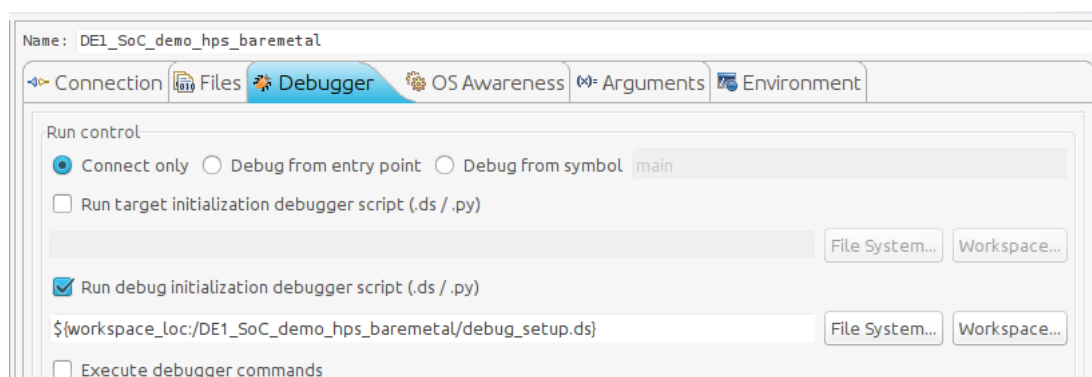

Figure 8-34. Debug Configuration "Debugger" Tab
- b. Enable the “Run **DEBUG** initialization debugger script (.ds / .py)” checkbox. Set the debug script to the one we defined for the project in 8.4.2.3.2.2. You should have something similar to Figure 8-34.